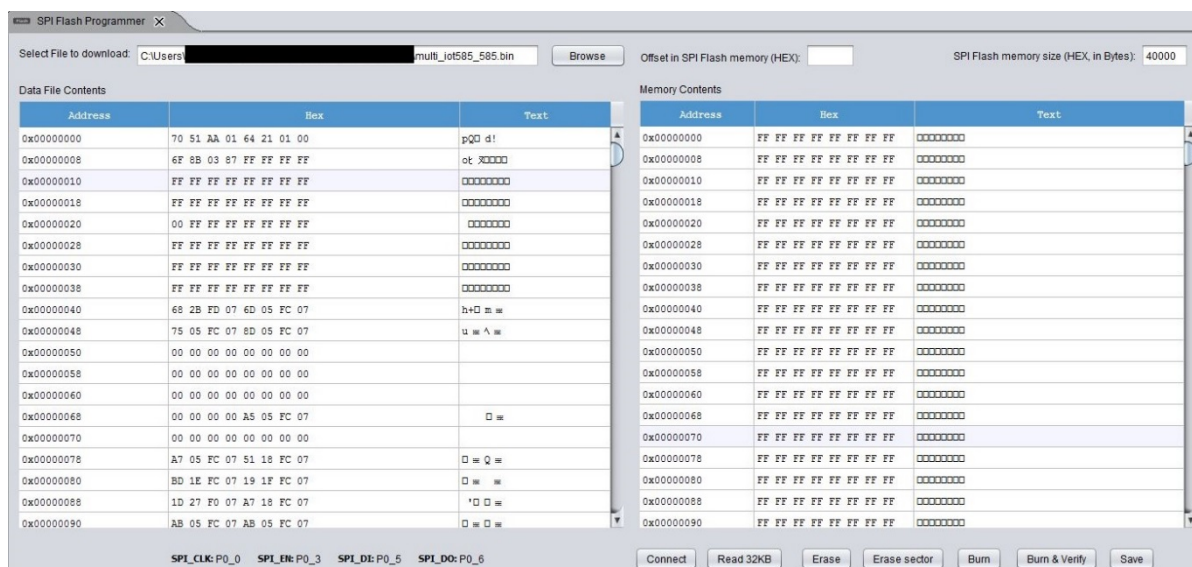

Figure 95: SPI Flash Programmer
4. Click the button on the left to open the **SPI Flash Programmer** (see Figure 95):